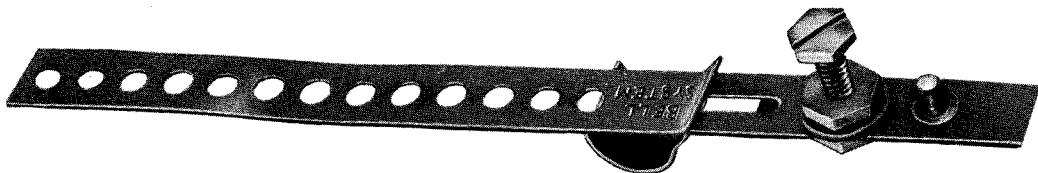

Fig. 58—B Station Ground Clamp
6.22 The B station ground clamp (Fig. 58) is installed as follows: